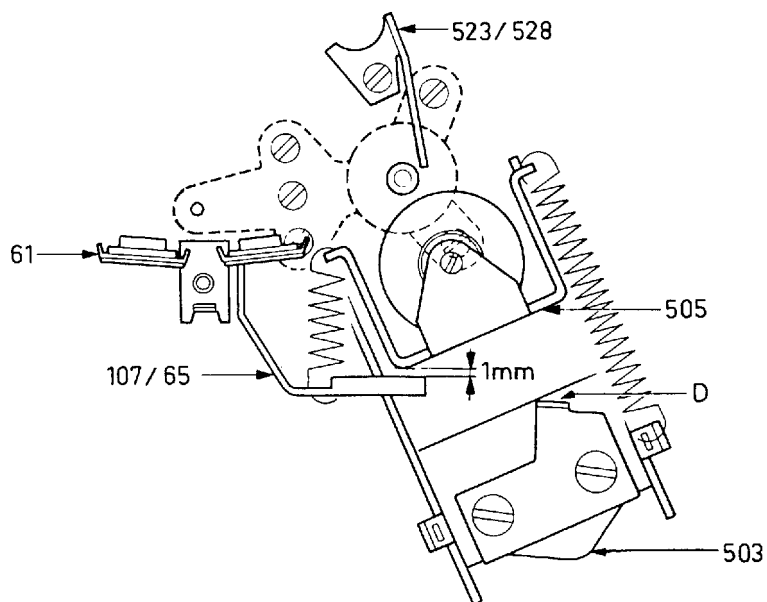

Fig. 13
- Bend the end stop for the cueing switch (D in Fig. 13) so that the clearance between the pressure-roller and capstan is approx. 2 mm when the cueing button is depressed.